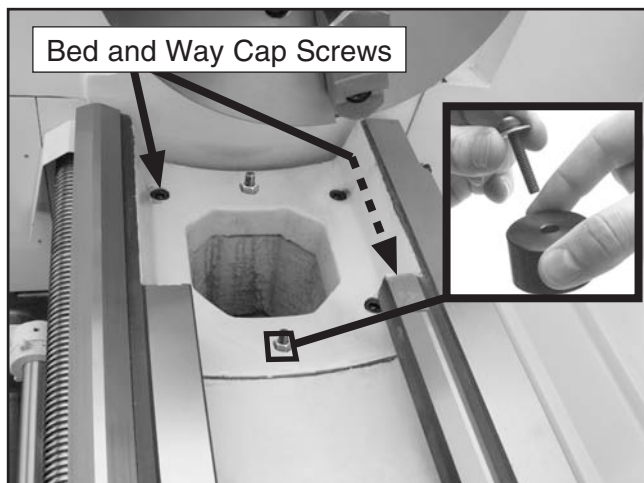

Figure 24. Lathe gap and pin puller setup.
1. Remove four cap screws from the bottom of the gap and two from the ends of the ways (see **Figure 24**).
2. Remove the set screw plug, and assemble an M6-1 x 30 cap screw, 6mm flat washer, and the gap pin puller hub shown in **Figure 24**.